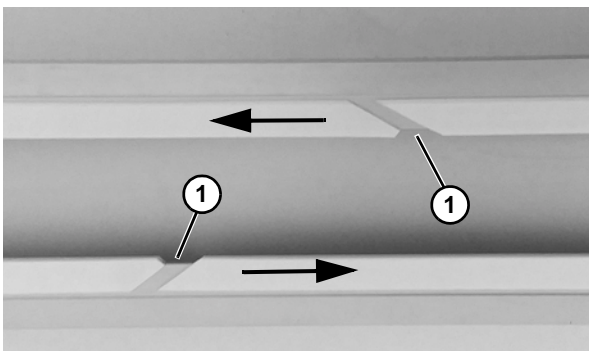

Figure 35
- Allow a space of approximately 10 mm (**Figure 35, item 1**) between two slide rail ends. The travel direction is indicated by an arrow.